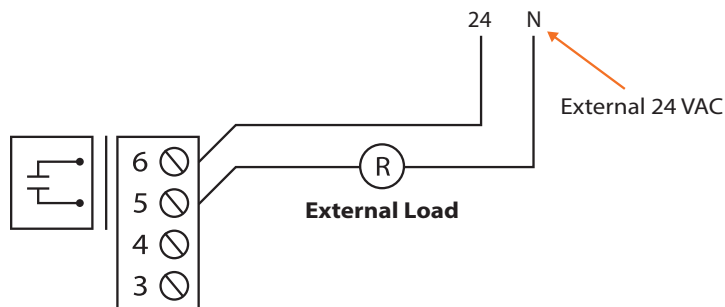

Figure 9 - Digital output wiring using an external power source
- 1) The first setup is by using an external power source. The VC2000 opens and closes a contact to allow the external source to power the load (see Figure 9). Pins #3 and #4 are not used.